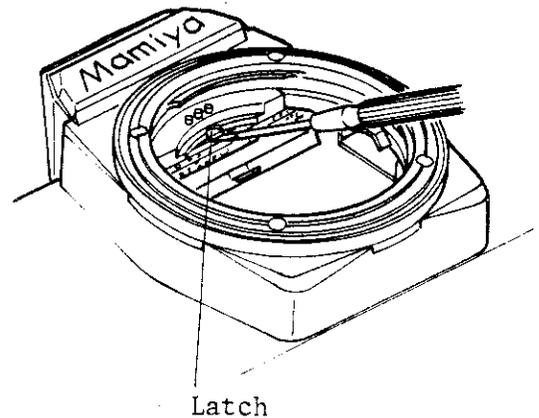

Fig.43
1. Lift up the latch with NO. 2 or NO. 3 minus screw driver. (Fig. 43)